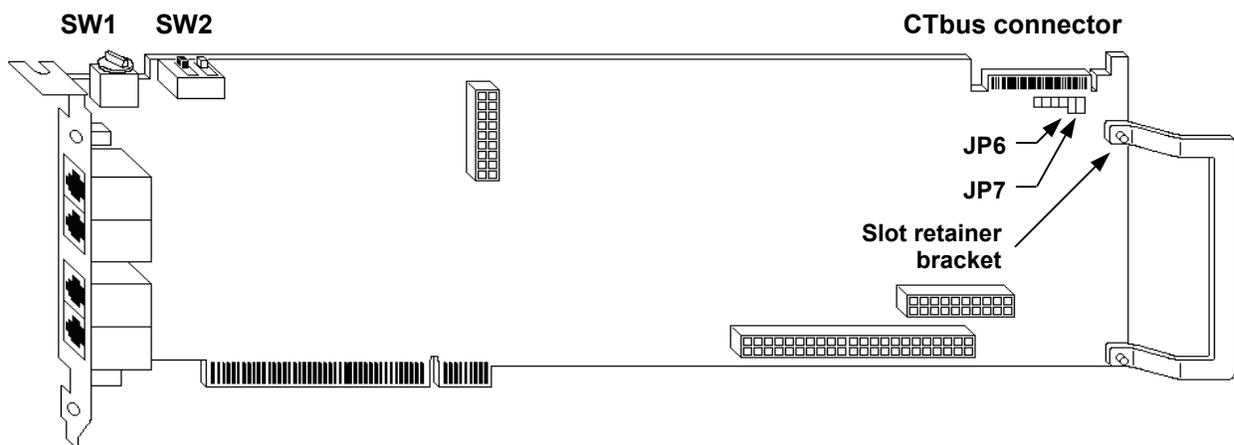
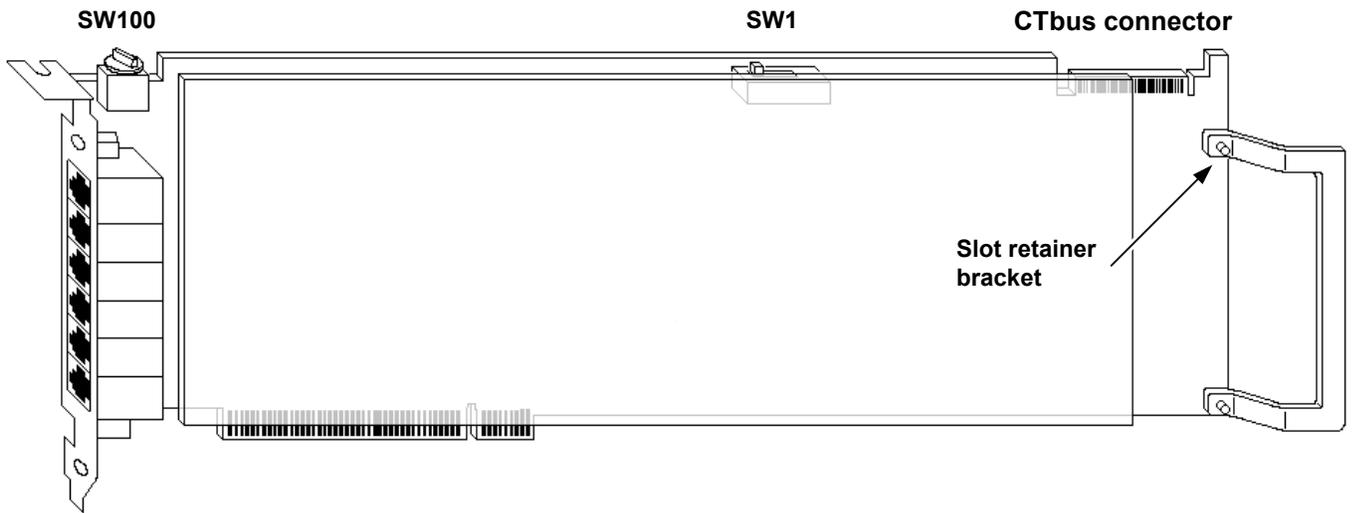
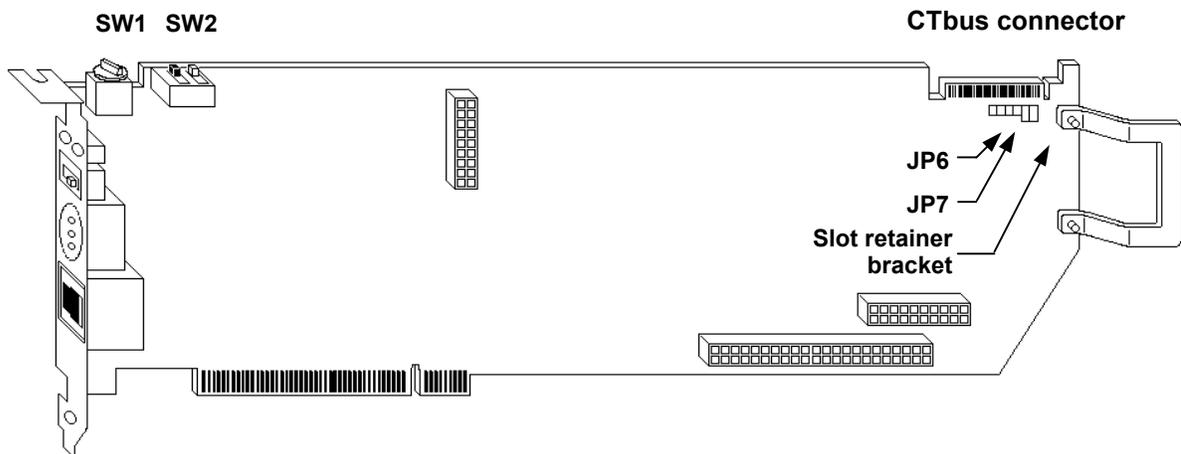

Figure 1. Layout of the D/41EPCI linecard
Figure 2. Layout of the D/120JCT-LS linecard
Figure 3. Layout of the D/240PCI-T1
Figures 1 through 3 show the general layouts of these linecards.
- Figure 1 if you are installing a D/41EPCI (SW1)
- Figure 2 if you are installing a D/120JCT-LS (SW100)
- Figure 3 if you are installing a D/240PCI-TI (SW1)
- Figure 1 if you are installing a D/41EPCI
- Figure 3 if you are installing a D/240PCI-T1
Depending on the design of the platform, you may need to remove the slot retainer bracket from the inside edge of the linecard. Refer to Figure 1, Figure 2, or Figure 3 for the location of the slot retainer bracket.